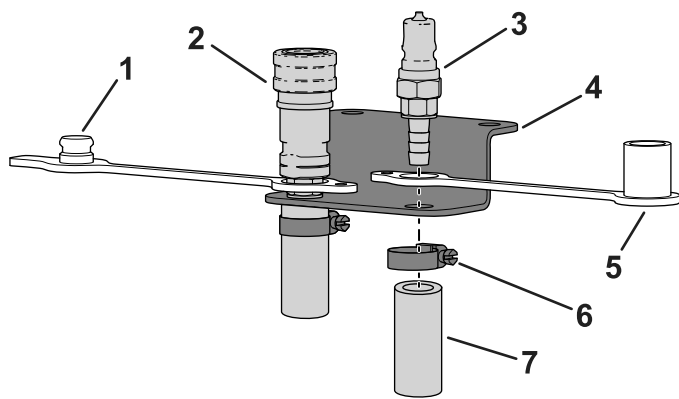

Figure 15
3. Place the dust plug around the barbed end on the female-coupler assembly and insert it into the left hole on the hose bracket (Figure 15).
4. Place the dust cap around the barbed end on the male-coupler assembly and insert it into the right hole on the hose bracket (Figure 15).
5. Slide a hose clamp over each hose (Figure 15).
6. Insert the supply hose into the barb end of the female-coupler assembly and use the hose clamp to secure it to the hose mount (Figure 15).
7. Insert the return hose into the barb end of the male-coupler assembly and use the hose clamp to secure it to the hose mount (Figure 15).